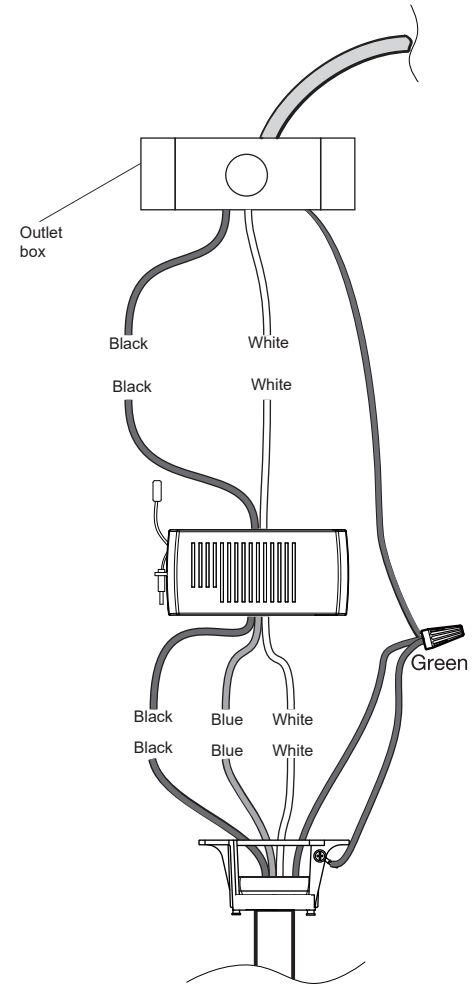

Fig. 12
Step 2. Motor to Receiver Electrical Connections: Connect the WHITE wire from the fan to the WHITE wire marked "TO MOTOR N" from the Receiver. Connect the BLACK wire from the fan to the BLACK wire marked "TO MOTOR L" from the Receiver. Connect the BLUE wire from the fan to the BLUE wire marked "For Light" from the Receiver. **(Fig.12)**
Step 3. Receiver to House Supply Wires Electrical connections: Connect the WHITE wire(Neutral) from the outlet box to the WHITE wire marked"AC in N" from the receiver. Connect the BLACK wire(Hot) from the outlet box to the BLACK wire marked "AC in L" from the receiver. Secure all wire connections with the plastic wire nuts provided. **(Fig.12)**